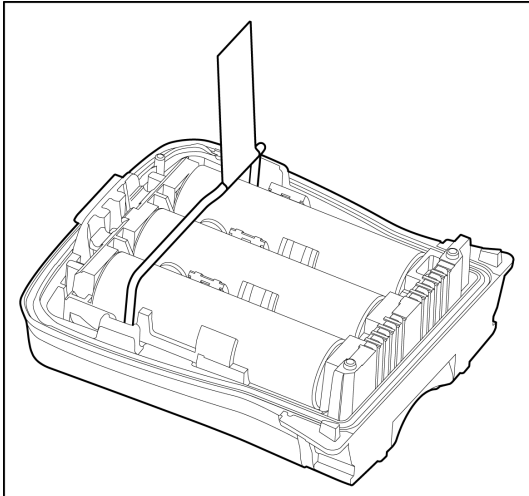
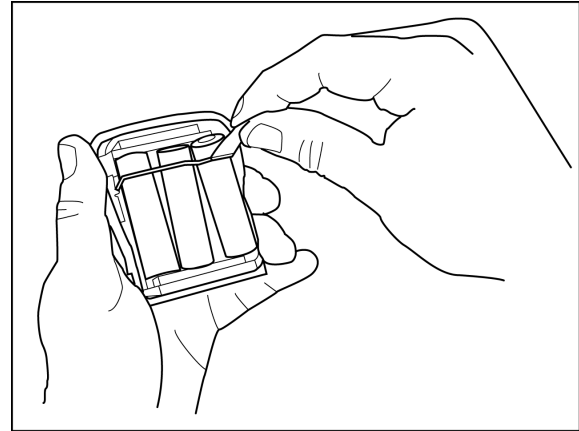
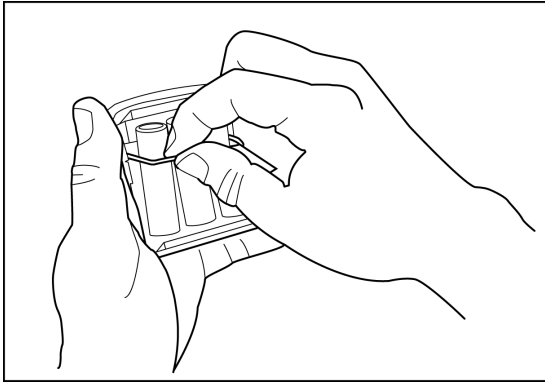
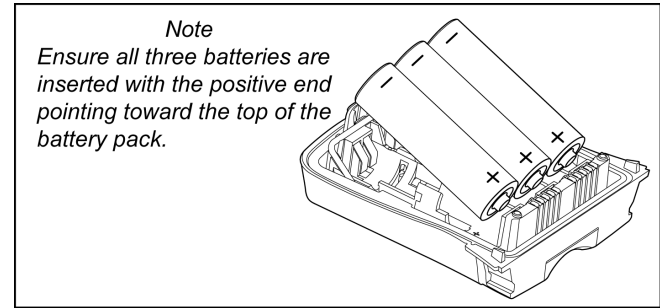

Figure 19. Ejector Bar Unhooked from Release Clasp
Figure 20. Using the Tab to Pull on the Ejector Bar
Figure 21. Pulling up on the Ejector Bar
Figure 22. Inserting the Alkaline Batteries
To replace the alkaline batteries, refer to Figure 19, Figure 20, Figure 21, and Figure 22, and steps 1-6.
9. Insert the new batteries. Position the positive end of the battery at a 30° angle and insert into the battery pack before pushing the negative end down into place. Refer to Figure 22.